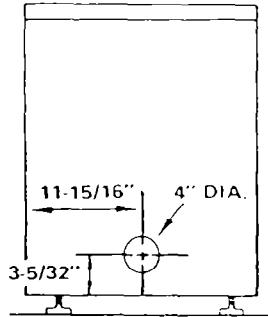

Figure 4
5. Exhaust outlet at rear of dryer is located as shown in Figure 4. Detailed instructions on spacing for side and rear clearances can be found in the section "Recessed and Closet Instructions." Also minimum spacing to side and rear information is located on a separate label (found on rear panel).